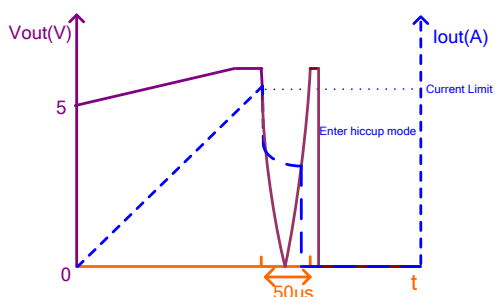

Figure 8: Over-Current Limit for CR Load
After the soft start finishes, if the USB output voltage is lower than 3.5V and lasts longer than 50 μ s, the MPQ4488 also enters hiccup (without having to wait for 5ms) (see Figure 8). This can prevent an abnormal thermal rise during a constant resistor (CR) load over-current case.